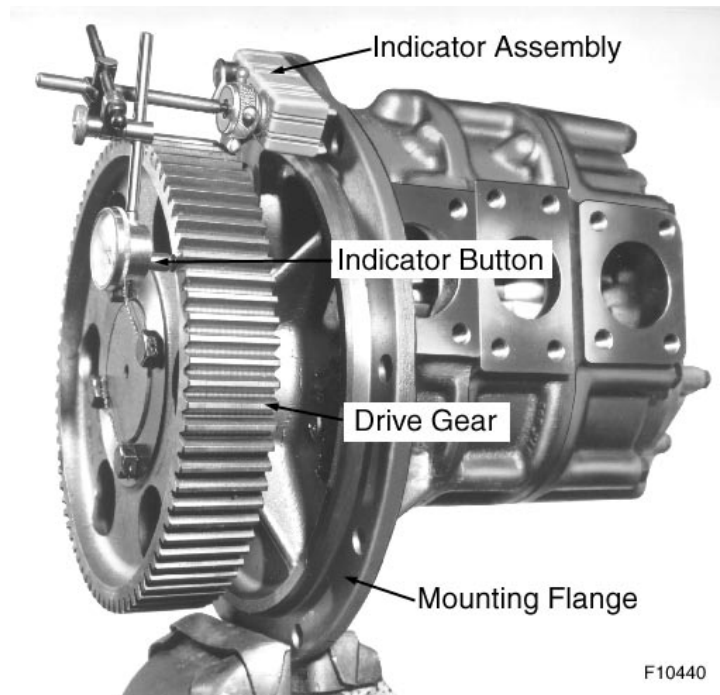

Figure 9-17. Checking Pump Drive Gear End Thrust .
2. Check the total thrust of the drive gears. This may be done by securing an indicator on the pump flange with the indicator button contacting the rim of the pump drive gear, Figure 9-17., on page 9-27. Push the drive gear inward so that all clearance is located at one end, then set the indicator to zero. Pull the drive gear outward to determine the amount of thrust clearance. Clearance should be within specified limits.
2. Check the total thrust of the pump drive gears. This is done using the same indicator arrangement shown in Figure 9-17., on page 9-27, for the main lube oil pump. Attach the indicator holder to the pump flange with the indicator button contacting the rim of the pump drive gear. Push the drive gear inward to take up all thrust in one direction. Set the indicator button to zero and pull the drive gear outward to determine clearance. Thrust clearance using new parts should be within the specified limits.